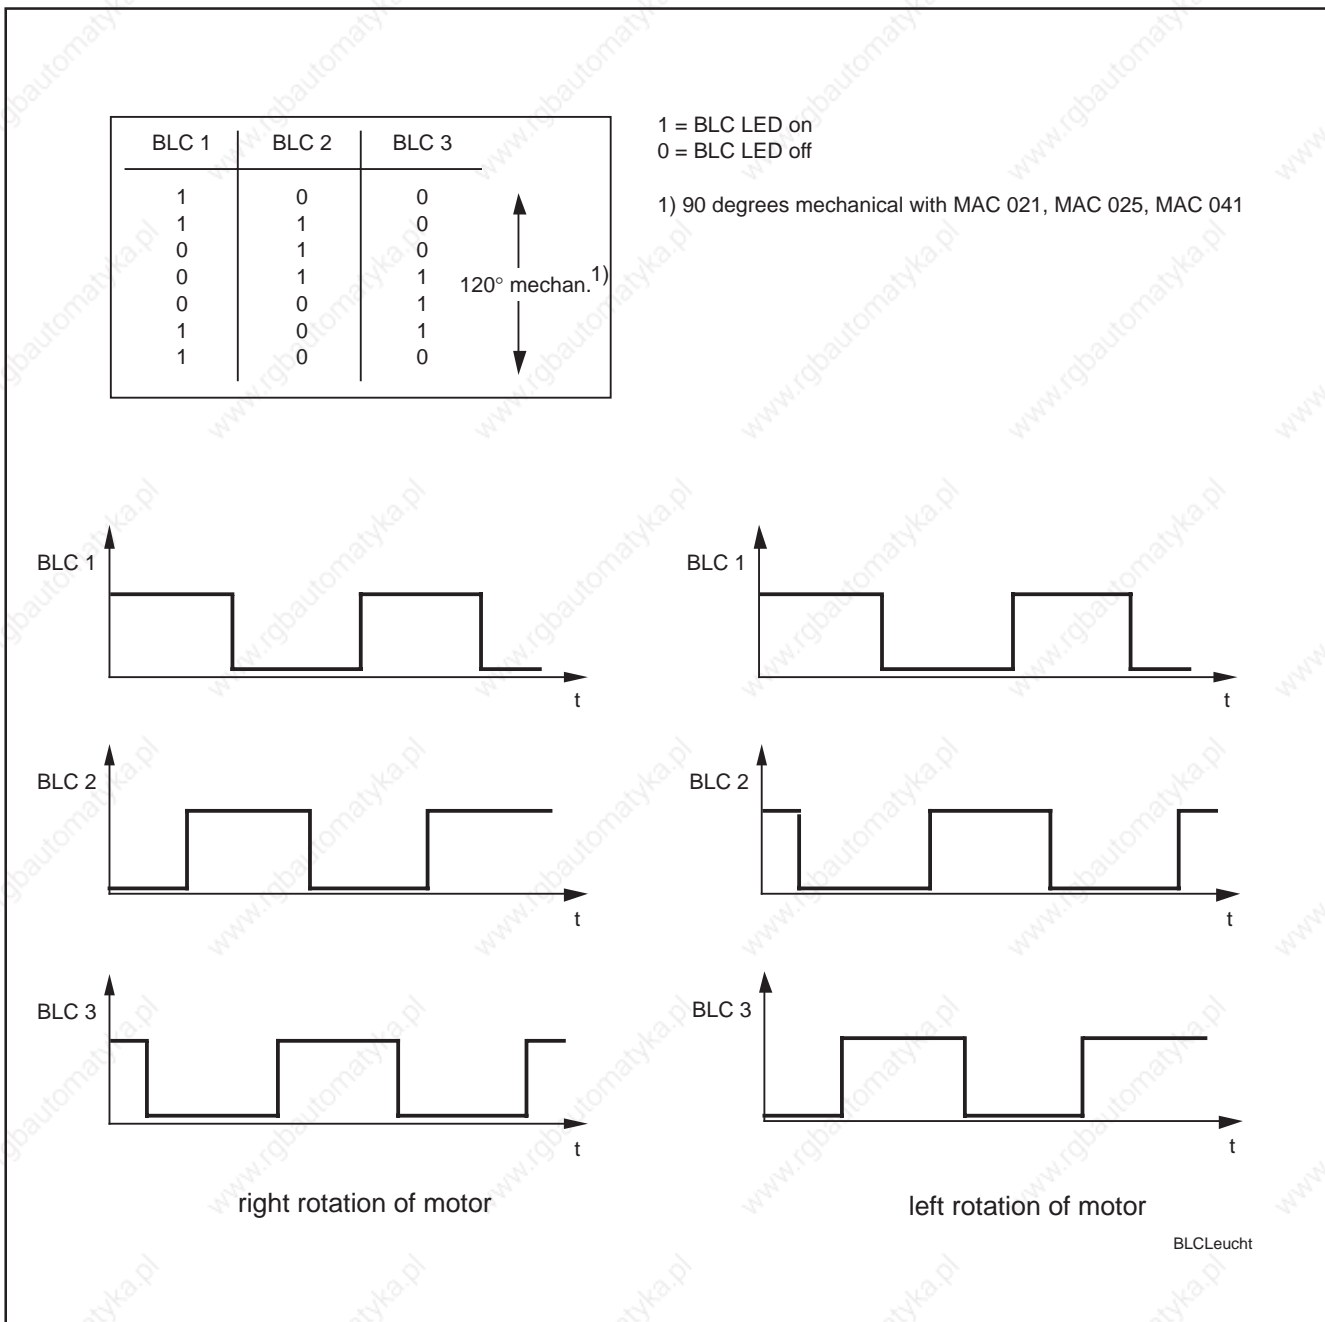

Figure 80: BLC LEDs and signal path
- Pull motor shaft through by hand and check all 6 states for correctness, in acc. with Fig. 80.